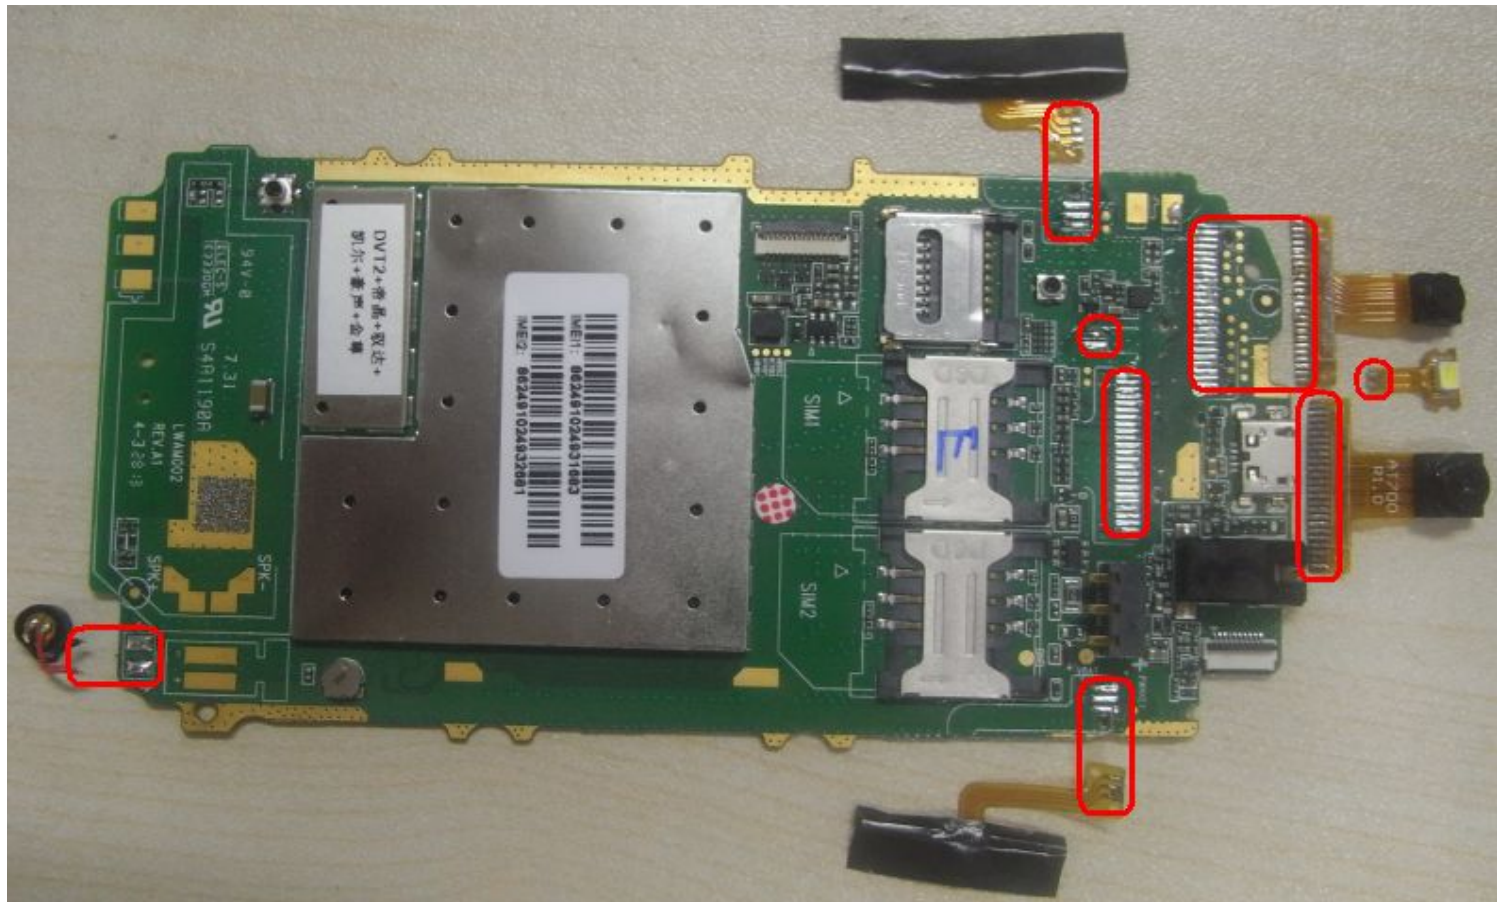

Fig.8
2) disassembly the Front and Back camera & Flash FPC & Side key FPC & MIC ,as the fig.8;